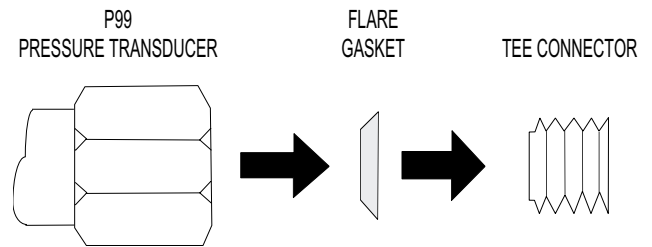

FIGURE 4 - PRESSURE TRANSDUCER INSTALLATION
- Install each pressure transducer to a tee connector using Red Loctite #554 thread sealant (for use with R22 refrigerant systems). To ensure a proper seal, install the flare gasket shown in Figure 4.